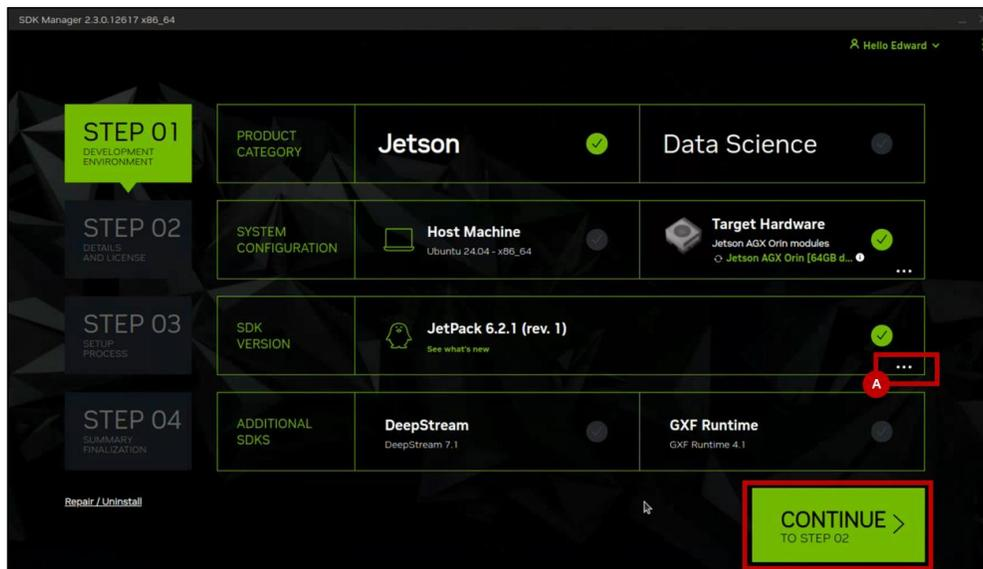

Figure 6.8. JetPack 6.2.1 (Rev.1)
7. Click the ... icon at (A) as shown in Figure 6.8, and select **JetPack 6.2.1 (Rev. 1)**. Then, click **CONTINUE** to proceed.